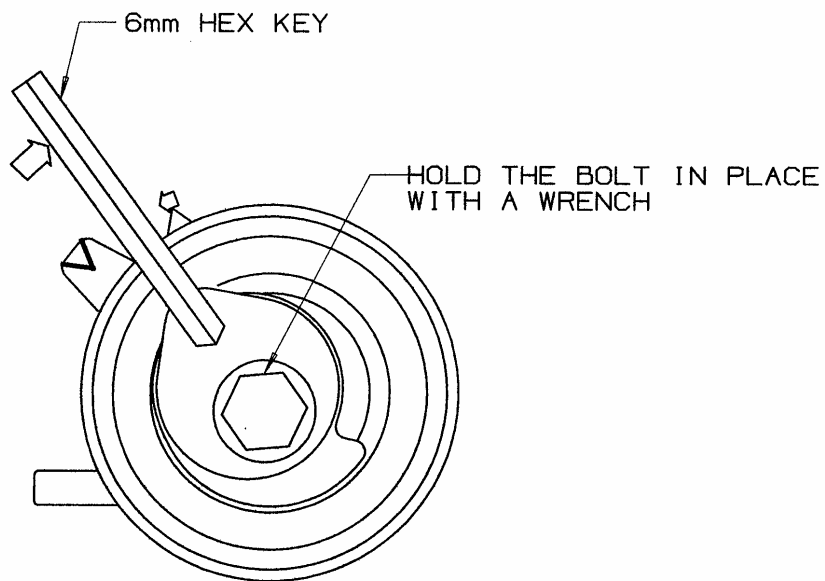

Figure 4: Adjustment of Tensioner with Hex Key
8. Rotate the Installation Shaft Washer CLOCKWISE with a 6 mm Hex Key. While rotating the washer, hold the mounting bolt with a Wrench to prevent the bolt from locking itself. The Tensioner assembly will move against the belt and the Arm Pointer will eventually start to move COUNTERCLOCKWISE (See Figure 4).